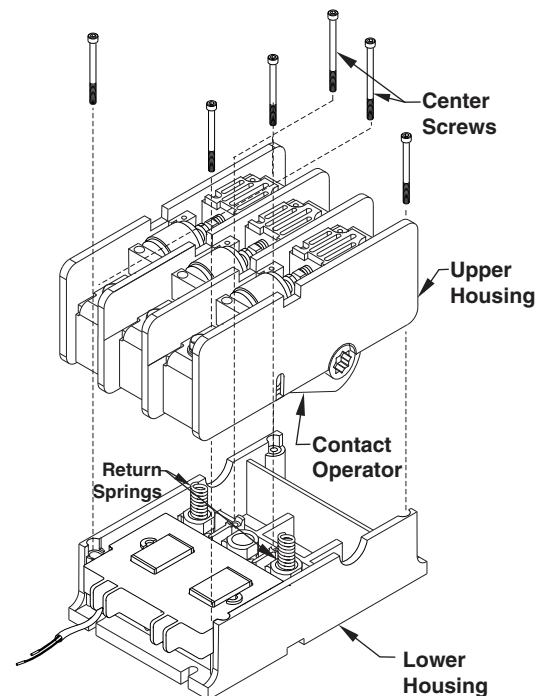

Figure 3B
4. Disconnect the two wire leads from the Coil to the Control-Pak. Remove the Control-Pak from the contactor and set on benchtop (**Figure 3B**).
5. Remove the (6) screws that secure the Upper Housing to the Lower Housing by first removing the (4) outer screws and then (2) center screws. NOTE- Removing the center screws will release the Return Springs. Carefully remove the Upper Housing leaving the Return Springs in the Lower Housing (**Figure 3B**).
4. Disconnect the two wire leads from the coil to the Control-Pak. Remove the Control-Pak from the contactor and set on benchtop (**Figure 3B**) page 2.